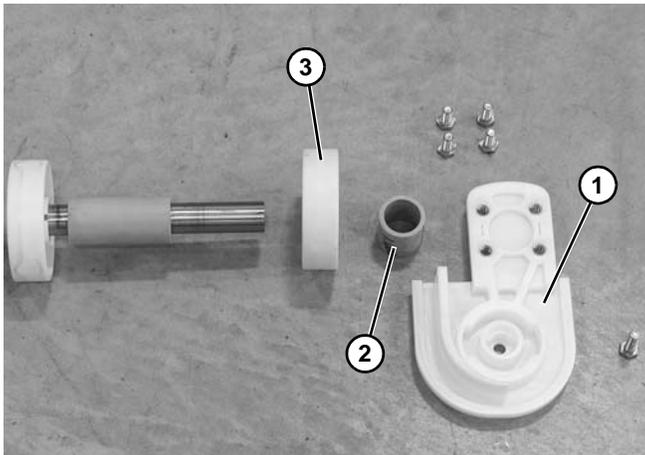

Figure 53
5. Slide the headplate (Figure 53, item 1) off the shaft.
6. Slide off the round puck spacer (Figure 53, item 2).
7. Slide off the puck and replace (Figure 53, item 3).